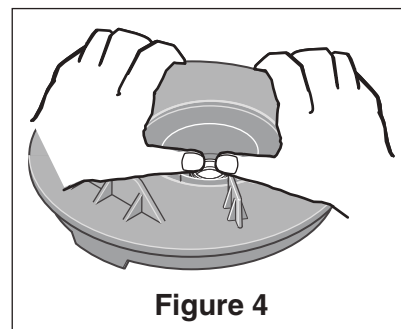

Figure 4
6. Remove the five (5) screws securing the diffuser to the seal plate. Remove the diffuser.
10. Remove the four (4) screws securing the seal plate to the motor.
11. Place seal plate face down on a flat surface and tap out white ceramic seal (see **Figure 4**).